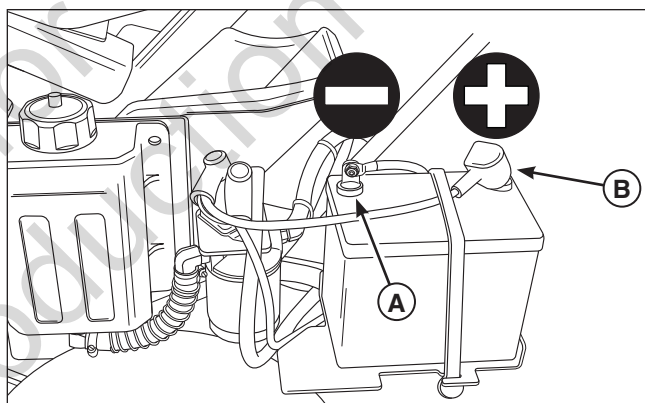

Figure 52. Battery Maintenance
1. Disconnect the cables from the battery, negative (black) cable first (**A**, **Figure 52**).